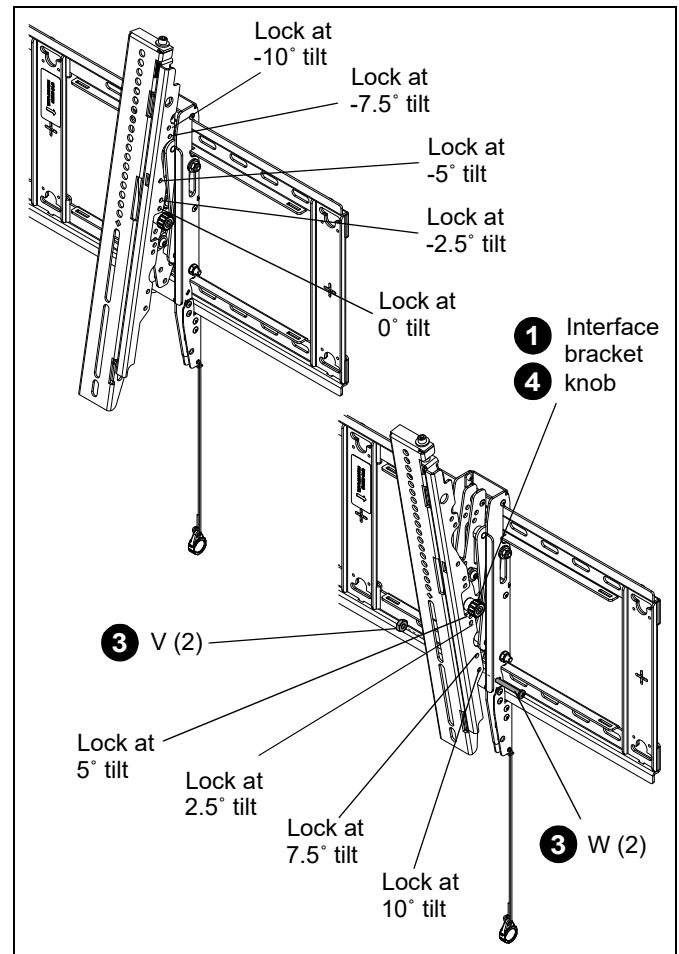
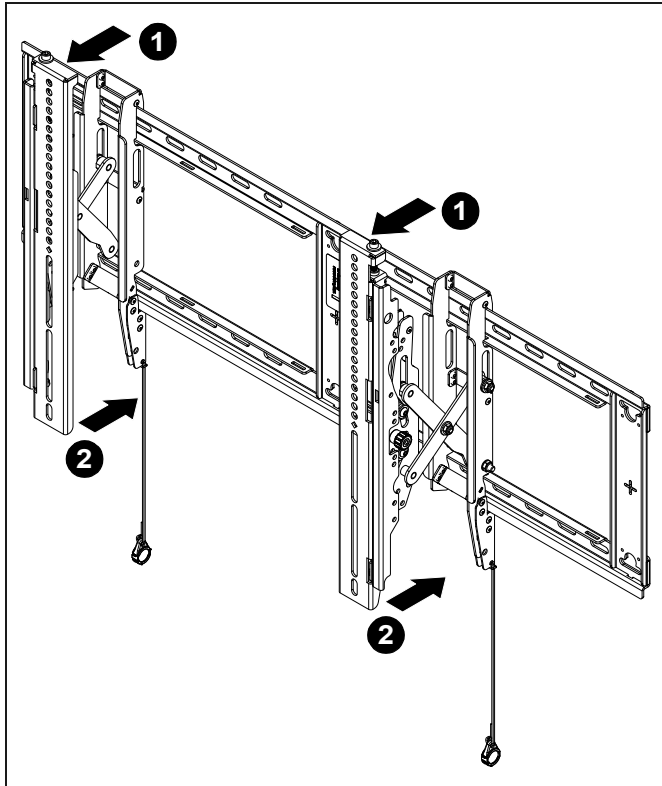

Figure 15
Figure 16
1. Make sure both interface brackets are fully collapsed (See Figure 16) and tilted the maximum 10° forward. (See Figure 15)
2. Adjust tilt as required. (See Figure 15)
3. The tilt may be locked at -10°, -7.5°, -5°, -2.5°, 0°, 2.5°, 5°, 7.5° or 10° using one 8-32 x 1.25" screw (W) and one 8/32 nut (V) per interface bracket. (See Figure 15)
1. Pull the interface brackets (S and T) outwards from the mount (U). (See Figure 16)
2. Push the interface brackets (S and T) inward to return the monitor back towards the mount (U). (See Figure 16)